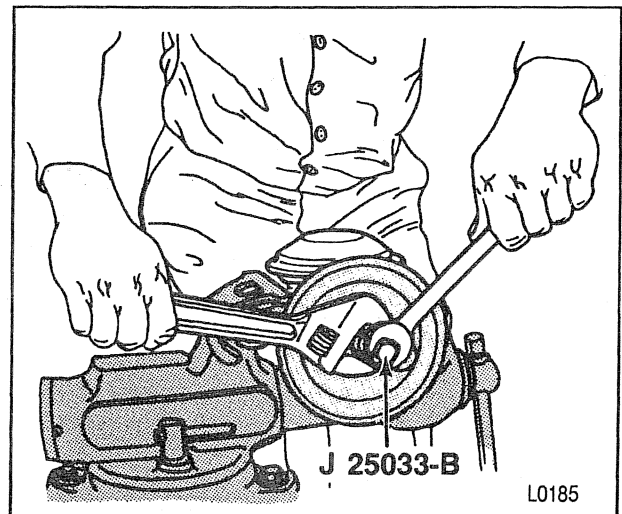

Figure 7—Installing Pulley
Assemble (Figure 7)
2. Pulley to the pump using tool J 25033-B until the pulley is flush with the end of the shaft (figure 7).